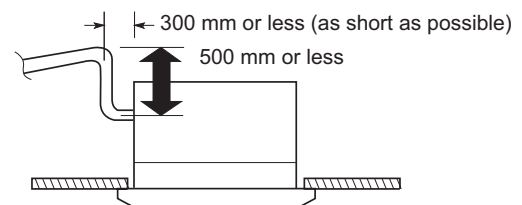

Fig. 2-151
- If it is necessary to increase the height of the drain pipe, the section directly after the connection port can be raised a maximum of 500 mm. Do not raise it any higher than 500 mm, as this could result in water leaks. (Fig. 2-151)